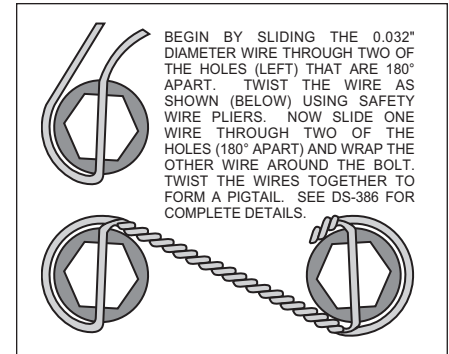
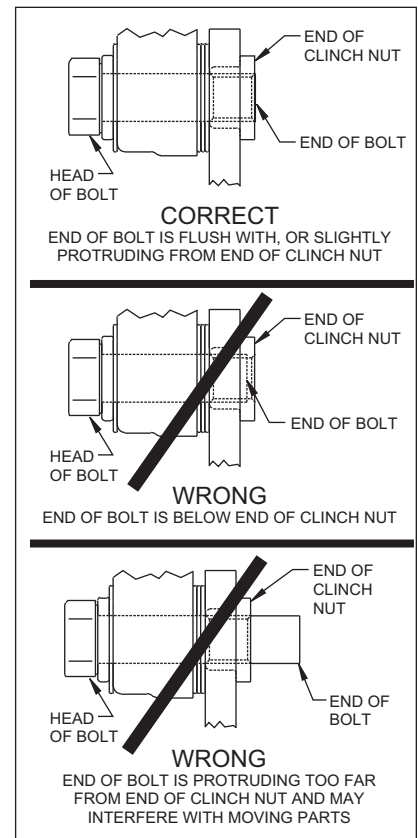

Figure 4. Safety Wire Diagram
Figure 5.
•With the slot pointing upward and the mounting ears pointing towards the rear of the vehicle, install the caliper mounting bracket (1) to the housing flange using the stock Original Equipment Manufacturer (OEM) bolts and nuts. Stock OEM hex nuts that retain the bracket (1) should be on the wheel side of the bracket. Apply red *Loctite*® 271 to the stock OEM bolt threads and torque to OEM specifications. **NOTE:** Some brackets act as the bearing retainers, while others help locate the bearing in the axle housing flange. If the stock bearing plates are still on the axle, the caliper mounting brackets (1) should be located between the axle housing flange and the bearing retainer plate. Make sure the heads of the caliper mounting bracket insert nuts are FACING OUTWARD TOWARDS THE WHEEL.
•The rotor (3) has two sides. A flat side and an inset side. Bolt hat (2) to flat side of rotor (3) by sliding one of the T-nut's (4) into the "T" slot on the hat and attaching the rotor using a lock washer (5) and bolt (6) through the mounting holes in the rotor (3) into the corresponding hole in the T-nut (4). Finger tighten only at this time. Repeat this procedure for the remaining T-nut's, lock washers and bolts. Insert the T-nut tool (supplied in the bolt kit) into the slot between the T-nut (4) and hat (2) up to the flat spot on the T-nut tool shaft. Torque bolt (6) to 198 in-lb. Remove T-nut tool and insert into T-nut slot on opposite side of hat and torque bolt (6) to 198 in-lb. Repeat until all T-nuts (4) have been tightened and torqued to proper specification. **NOTE:** Reference Wilwood data sheet DS-440 (supplied with this document) for additional information if necessary. Safety wire bolts (6) using standard 0.032 inch diameter stainless steel safety wire as shown in Figure 4. Please refer to Wilwood's data sheet DS-386 (available at www.wilwood.com/Pdf/DataSheets/ds386.pdf) for complete safety wire installation instructions.
•Align the correct hole pattern in the hat (2) with the stud pattern on the axle flange. **NOTE:** Some OEM and after market axles come with stud sizes larger than 0.50" diameter. Verify stud size and have a qualified machine shop drill the hats to the correct size. Slide the hat/rotor assembly (2 and 3) over the wheel studs and against the axle flange face.
•**NOTE:** Please reference the caution statement at the beginning of the assembly instructions. WITH THE BLEED SCREWS POINTING UP, mount the caliper (7) over the rotor (3) and onto the caliper mounting bracket (1) using washers (8) and mounting bolts (9). View the rotor through the top opening of the caliper. The rotor should be aligned in the center of the caliper. If not, adjust the caliper by using 0.032 inch shims (10) by placing them between the caliper mounting bracket (1) and the caliper (7). Add as many shim washers (10) as necessary to achieve the correct alignment. **NOTE:** The end of the bolt must be flush with or slightly protruding from the head of the clinch nut. See Figure 5. Place spare shims (10) between washer and caliper mounting ear to achieve the proper mounting fastener configuration. Always use the same amount of shims on both the top and bottom caliper mounting bolts (9). Apply red *Loctite*® 271 to the mounting bolt threads (9), torque to 30 ft-lb. Safety wire the caliper mounting bolts (9).
•Position the Wilwood disc brake pads (11) into the caliper (7) and fasten with cotter pin (12). Steel backing plate side of brake pad should face the caliper pistons.